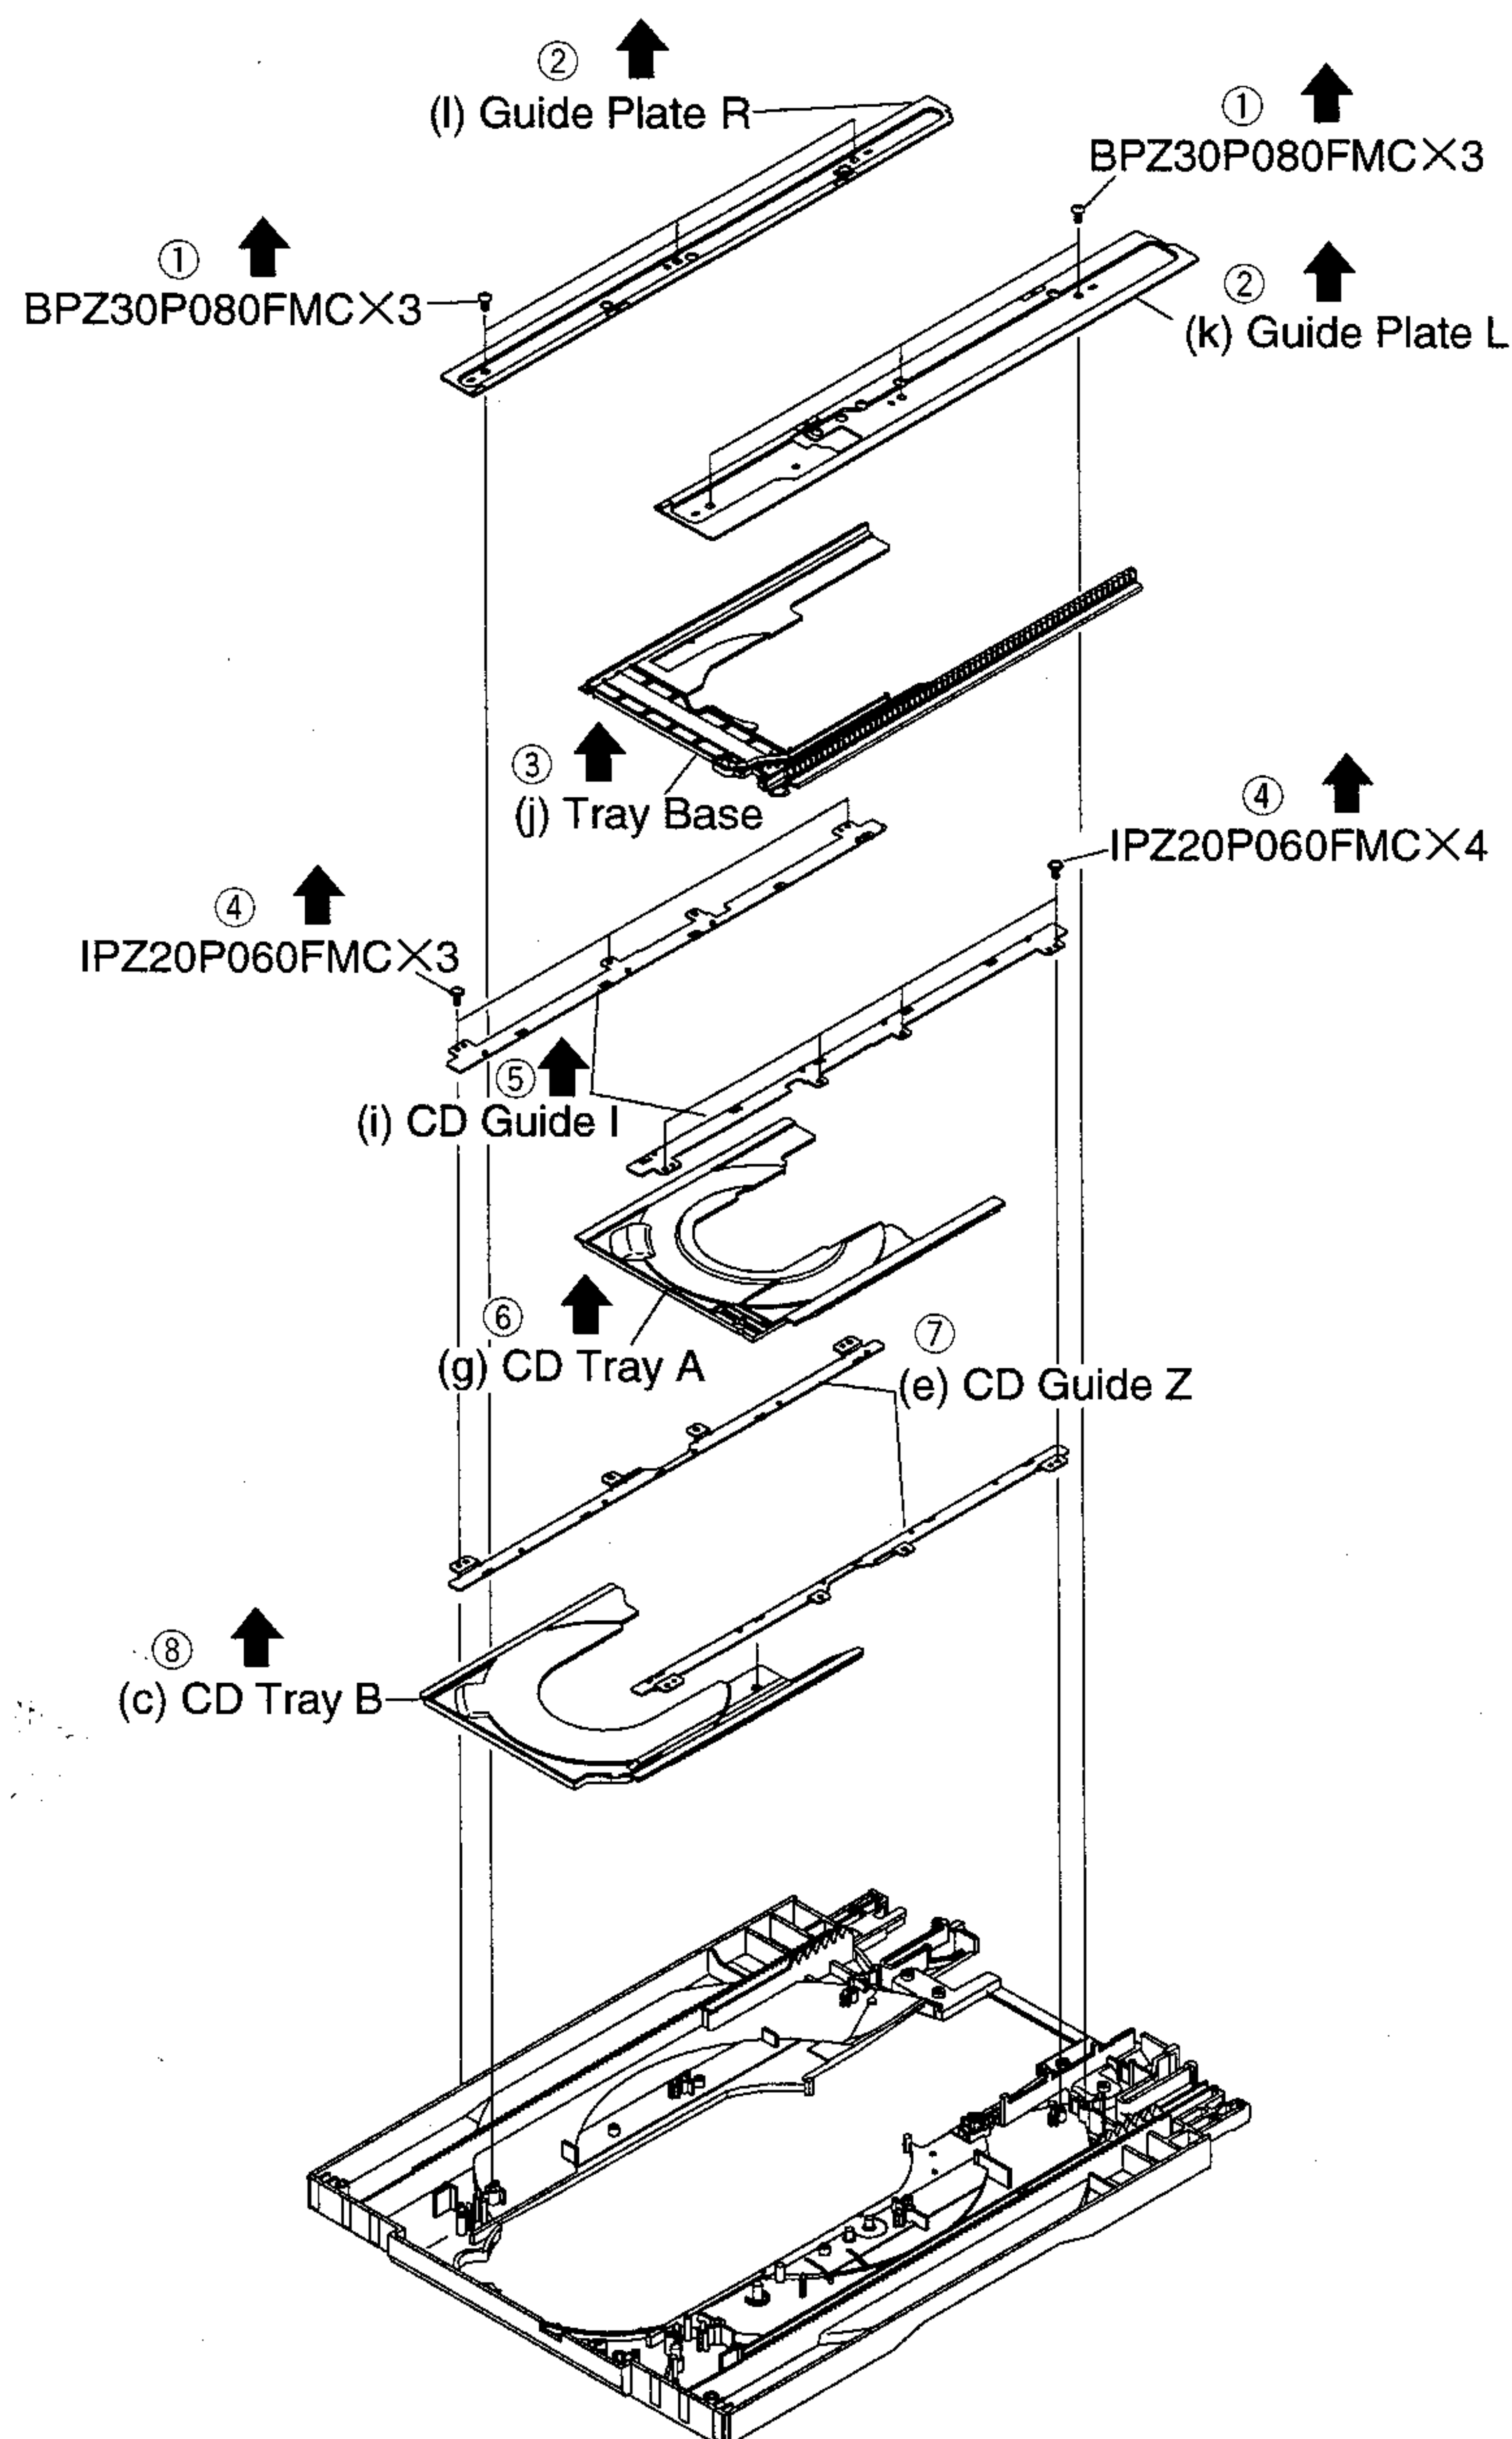

Fig.3-1 Disassembling (Bottom View)
■DISASSEMBLING CD TRAYS A AND B (Fig. 3-1)
- ① Remove the Screws from (k) Guide Plate L and (l) Guide Plate R. (BPZ30P080FMC × 6)
- ② Remove (k) Guide Plate L and (l) Guide Plate R.
- ③ Remove (j) Tray Base.
- ④ Remove the Screws from left and right (i) CD Guide I. (IPZ20P060FMC × 7)
- ⑤ Remove left and right (i) CD Guide I.
- ⑥ Remove (g) CD Tray A.
- ⑦ Remove left and right (e) CD Guide Z.
- ⑧ Remove (c) CD Tray B.